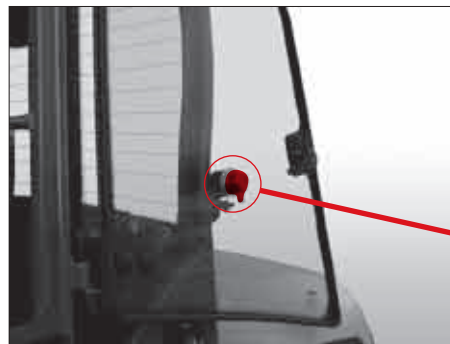

Fig. 22
- Arrest the side window by locking it in the holder (Fig. 22).
- Activate lever Item 1 to release the window arrest (Fig. 22).